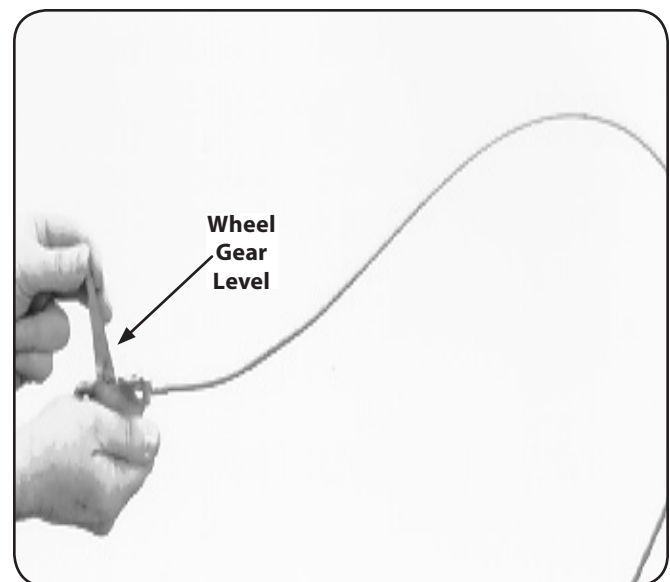

**Figure 3-3**
4. With the forward clutch cable on the inside of the handlebar (See Fig. 3-3), position the handlebar ends on the outside of the two mounting tabs shown in Fig. 3-2 on the transmission top cover.
5. Loosely attach the handlebars to the mounting tabs with two  $\frac{3}{8}$ -16 x 1" screws (heads of screws go to inside of tabs),  $\frac{3}{8}$ " flat washers and  $\frac{3}{8}$ "-16 lock nuts. See Fig. 3-3.